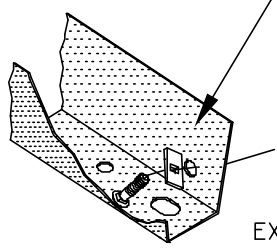

FIGURE 2.
2. FISHWIRE CARRIAGE BOLT(S) AND 1/4 X 1 X 3 BLOCK(S) THROUGH ACCESS HOLE(S) AT END OF FRAME AND INTO EXISTING SLOT(S) IN BOTTOM OF FRAME. REMOVE FISHWIRE.
3. FISHWIRE CARRIAGE BOLT(S) AND 1/4 X 1 X 2 BLOCK(S) THROUGH ACCESS HOLE(S) AT END OF FRAME. KEEP BOLT(S) AND BLOCK(S) INSIDE FRAME UNTIL HITCH IS IN POSITION. LEAVE FISHWIRE(S) ON CARRIAGE BOLT(S) TEMPORARILY, FIGURE 2.
4. RAISE HITCH INTO POSITION. USE FISHWIRE(S) TO PULL CARRIAGE BOLT(S) THROUGH HOLE(S) IN HITCH BRACKET(S) ON DRIVER'S *(OR BOTH) SIDES. LOOSELY INSTALL CONICAL TOOTHED WASHER(S) AND HEX NUT(S) ONTO CARRIAGE BOLT(S).
5. ON ALL BUT LATER MODEL 2009'S INSTALL THREE (3) 12mm THREAD FORMING BOLTS AND CONICAL TOOTHED WASHERS INTO EXISTING UNTHREADED WELDNUTS ON PASSENGER SIDE AS SHOWN. BOLTS WILL FORM THREADS.